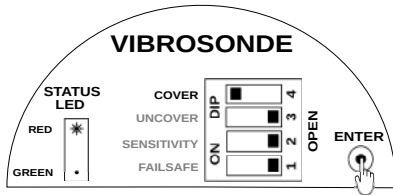

Figure 11: Setting Cover Delay
3. Press ENTER and keep it pressed as shown in Figure 11. The STATUS RED LED will start blinking. Count the number of blinks. After setting the value release the ENTER key.